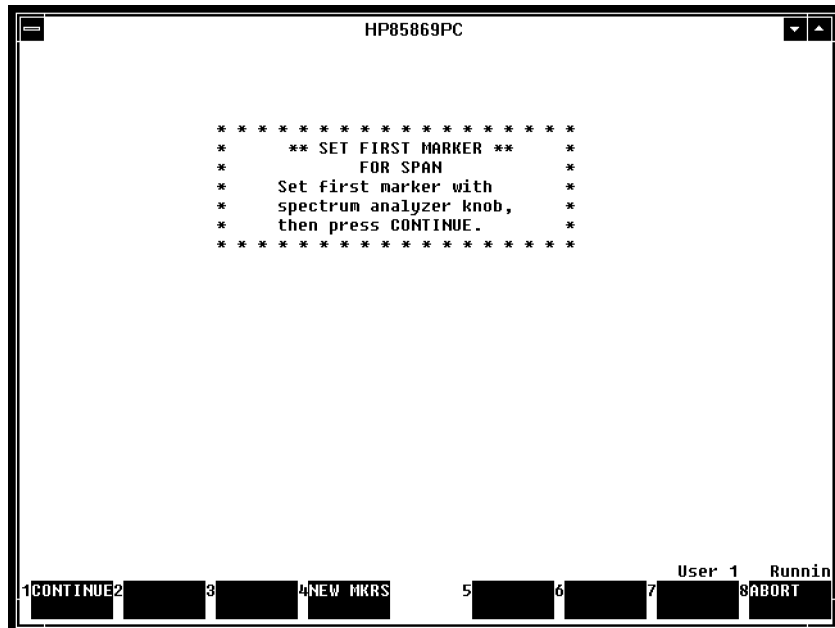

Figure 7-8. Setting First Zoom Local Marker
After selecting the Zoom Local option, from the data analysis options menu, a display similar to Figure 7-8 appears on your computer.
3. Use the up and down arrow keys on the computer keyboard to align the indicator with the Zoom Local analysis option and press **SELECT**. After pressing the **SELECT** softkey, a display similar to Figure 7-8 appears on your computer.